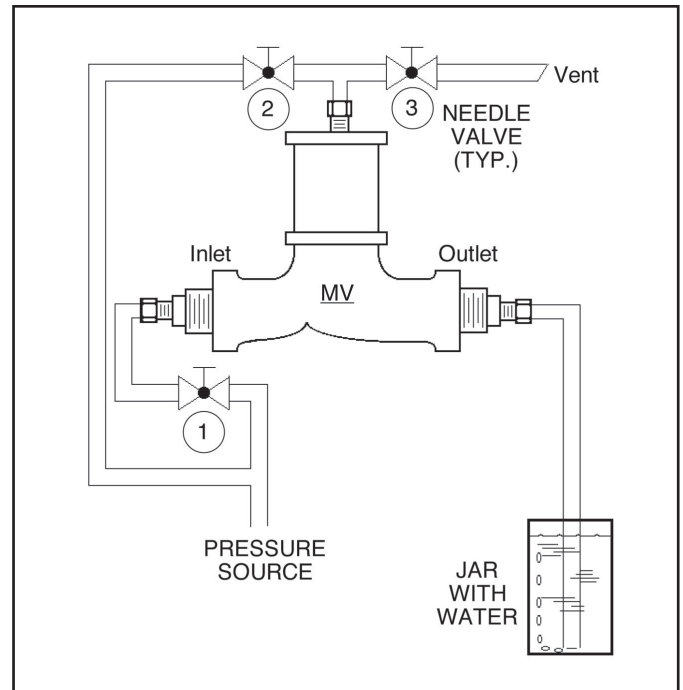

FIGURE 5:
1. Separate pilot valve (PV) from main valve (MV). See Section VI, subsection B.
3. Install temporary hoses with tight shutoff instrument needle valves at three connections; cylinder head-inlet, vent, and inlet of main valve. See Figure 5.